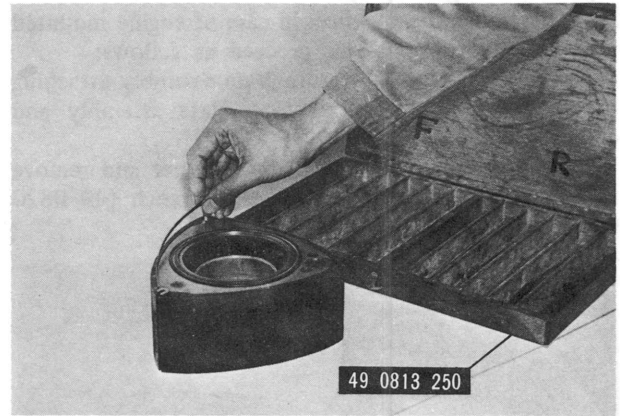

Fig. 1-22 Removing seals
42. Remove each seal and spring on the other side of the rear rotor, and place them in the seal case as shown in Fig. 1-22.